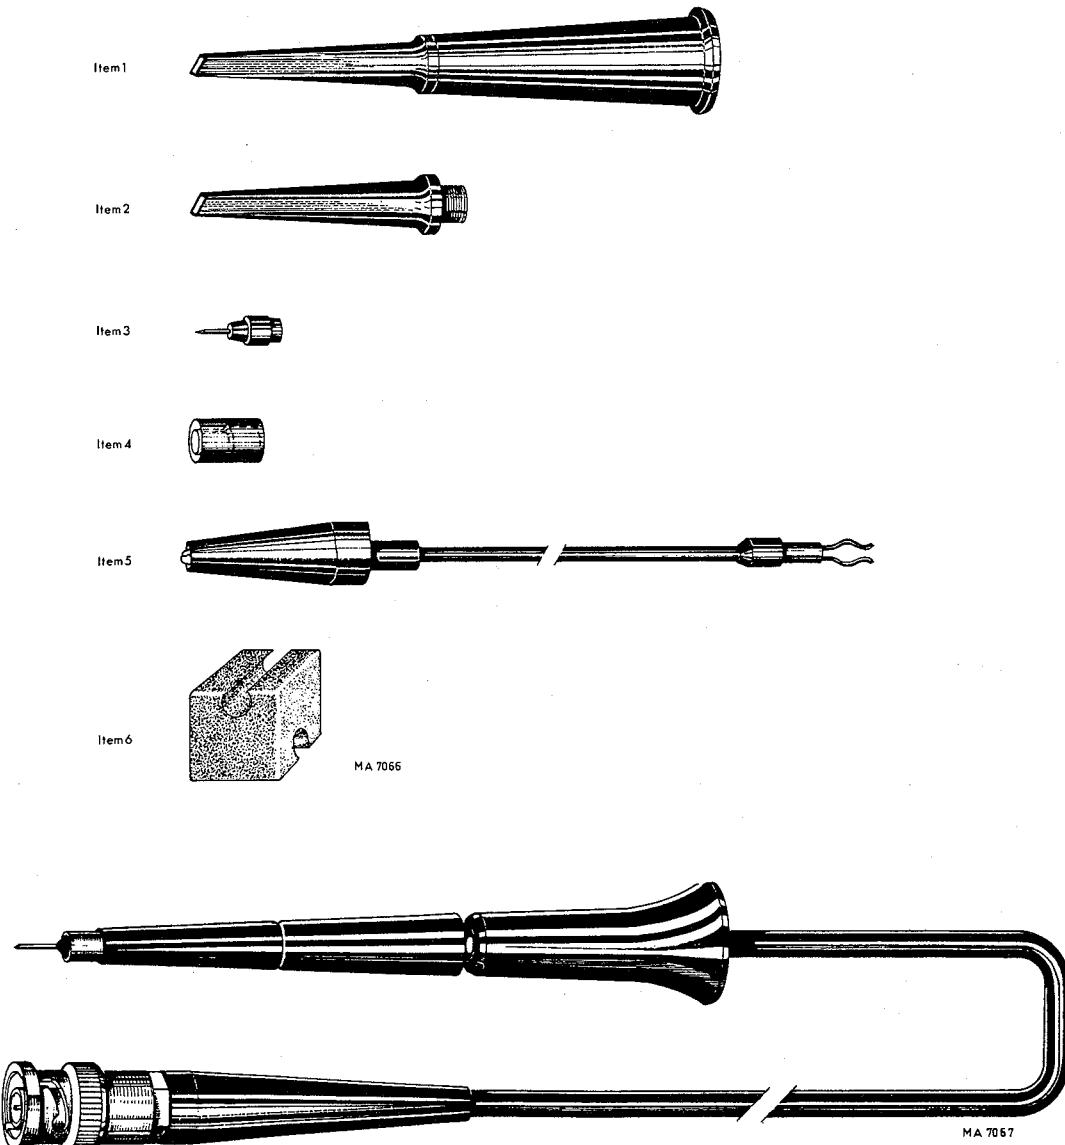

Fig. 3.22. Probe set PM 9335 (PM 9335L)
| 1 test hook | Fig. 3.22, item 1 |
| 2 spare test hook sleeves | Fig. 3.22, item 2 |
| 2 spare probe tips | Fig. 3.22, item 3 |
| 1 protective cap | Fig. 3.22, item 4 |
| 1 earthing lead | Fig. 3.22, item 5 |
| 1 probe holder | Fig. 3.22, item 6 |
| 1 probe assembly | Fig. 3.22, item 7 |